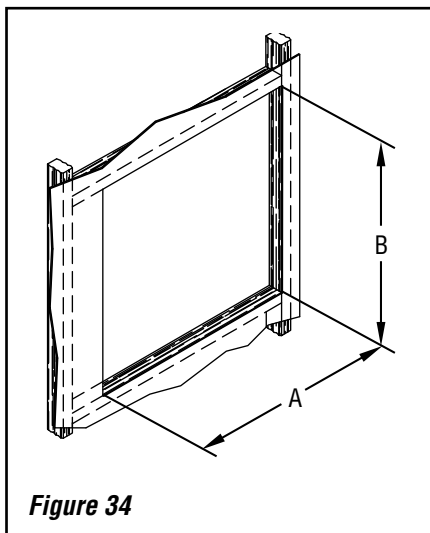

Figure 34
2. Locate the area where the chimney section is to penetrate the vertical wall studs. Cut and frame an opening so that the flue is centered between the vertical wall studs. Frame opening per **Figure 34** and **Table 4**.